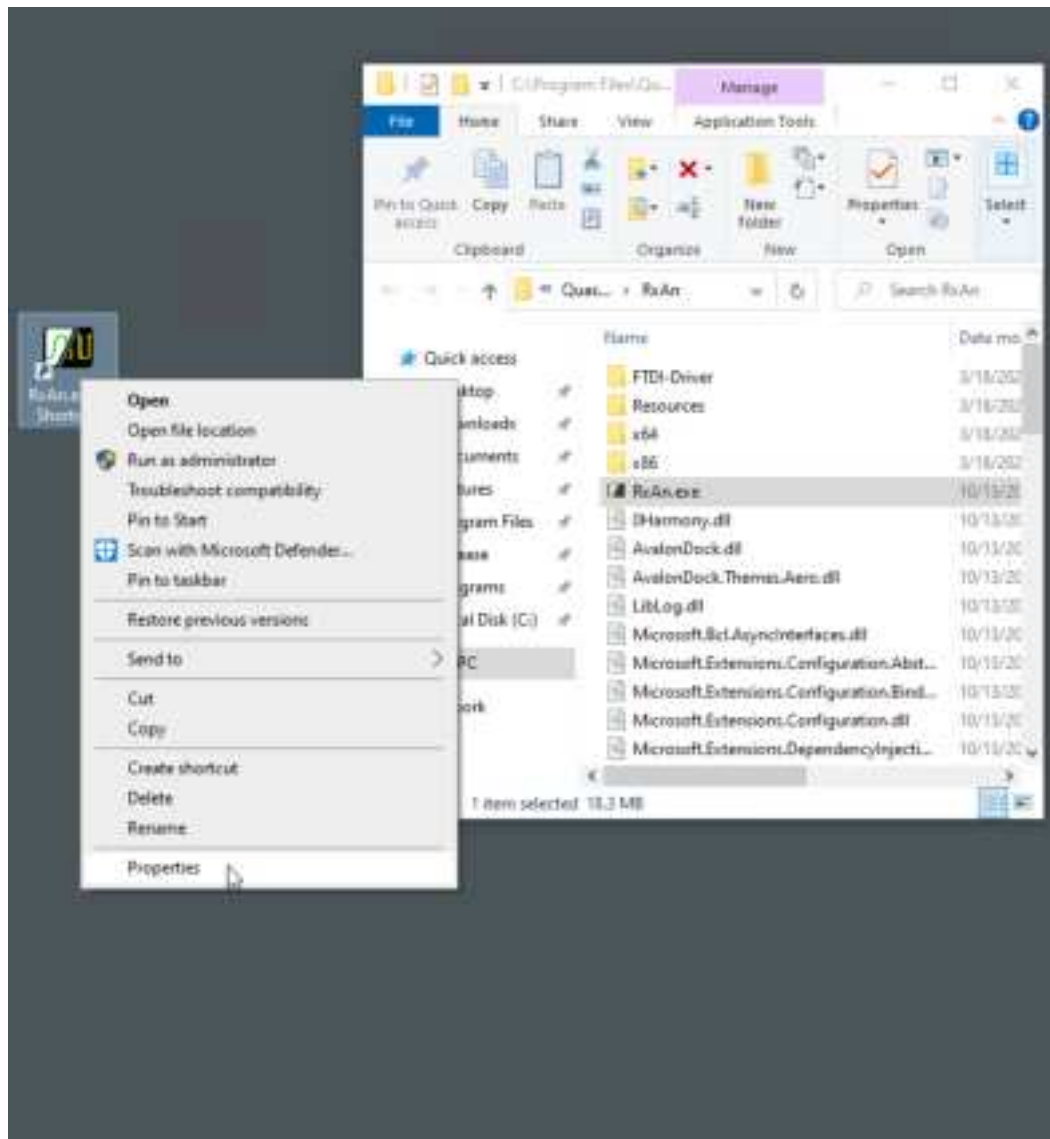

Figure 320: Shortcut Menu, Properties Selected
3. Right click on the shortcut icon, then select Properties from the menu, as shown in Figure 320.